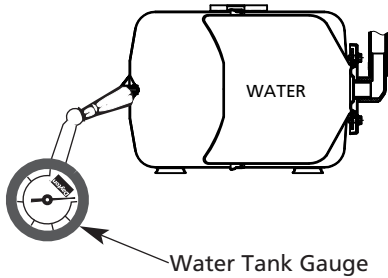

Figure 23 – Check Tank Precharge
5. Check pressure at valve with pressure gauge (See Figure 23).